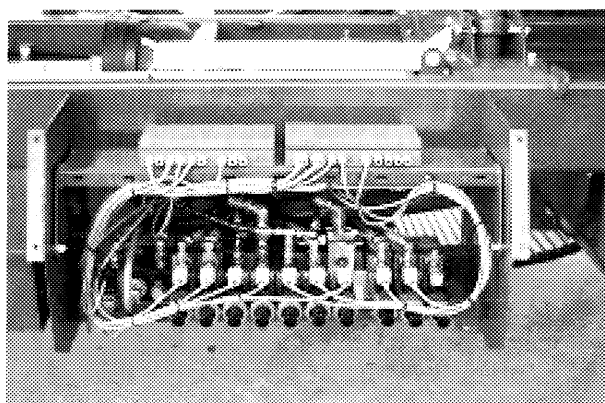

Fig. 26-2
- Driver unit fitted on the machine (Fig. 26-2)